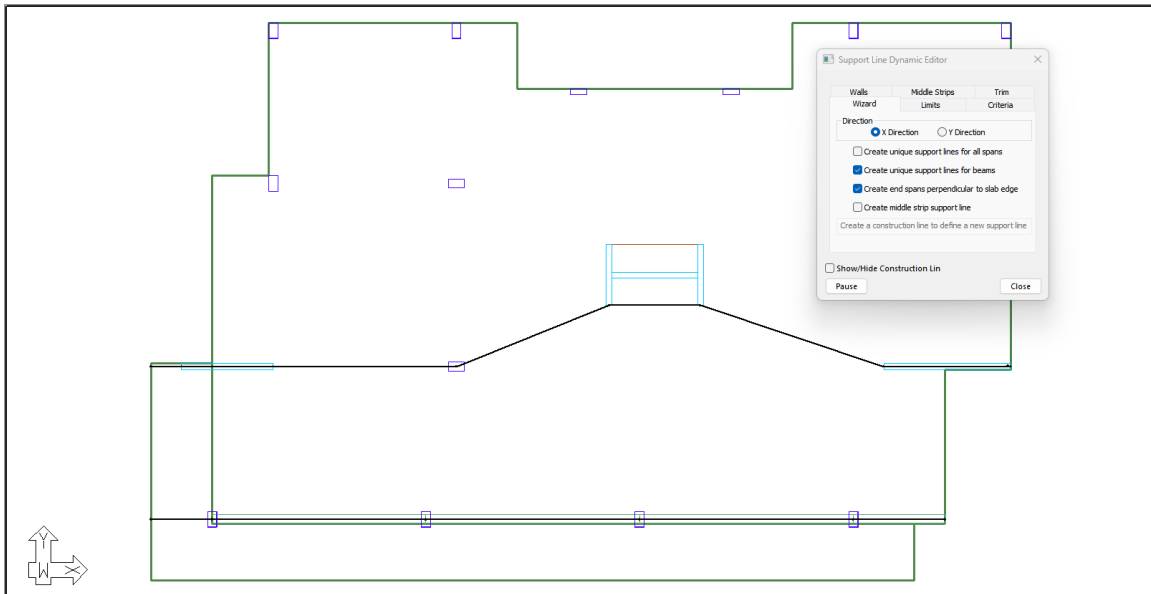

FIGURE 9-11
- Click the **Enter** key on your keyboard to accept the construction line and have the software create the second support line. You should now see a view of the model as shown in **FIGURE 9-11**. As you can see, we now have two support lines modeled.